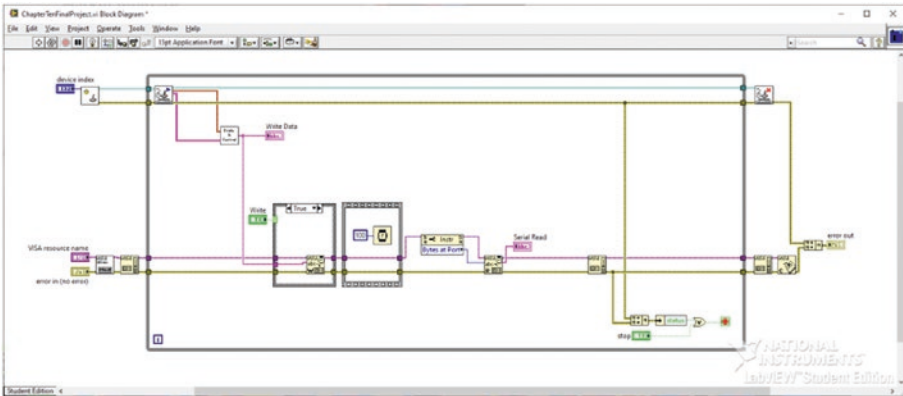

Figure 10-36. Make sure your Block Diagram looks like this
10. Connect all the necessary wires for the “Bytes at Port” function and also connect the “Serial Read” indicator to the VISA Read Function. See Figure 10-36.